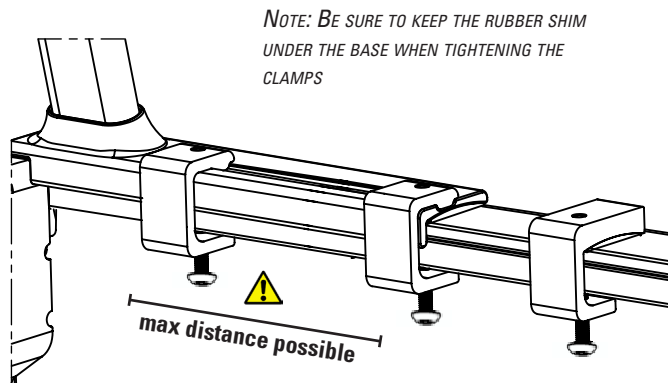

Figure 1
1. Remove the front 2 clamps from either side of the front rack and replace with TB Front Clamps (Figure 1)
5. Place the Rounded Shims on the sidewall of your truck, approximately 2" to 3" behind the upright bases as illustrated (Figure 1) This distance will vary depending on the size of the toolbox